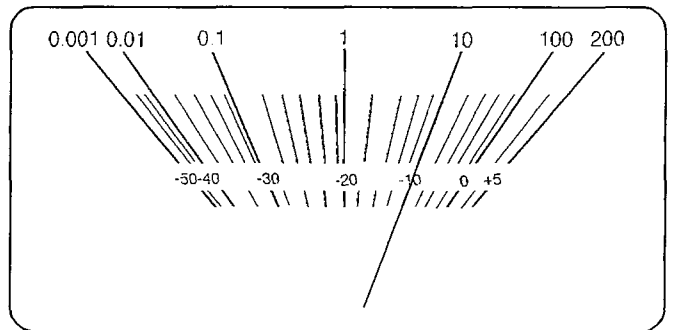

Fig. 4
5. Adjust VR909 (L-ch) and VR910 (R-ch) so that the power meter indicates 10 W (shown in Fig. 4).